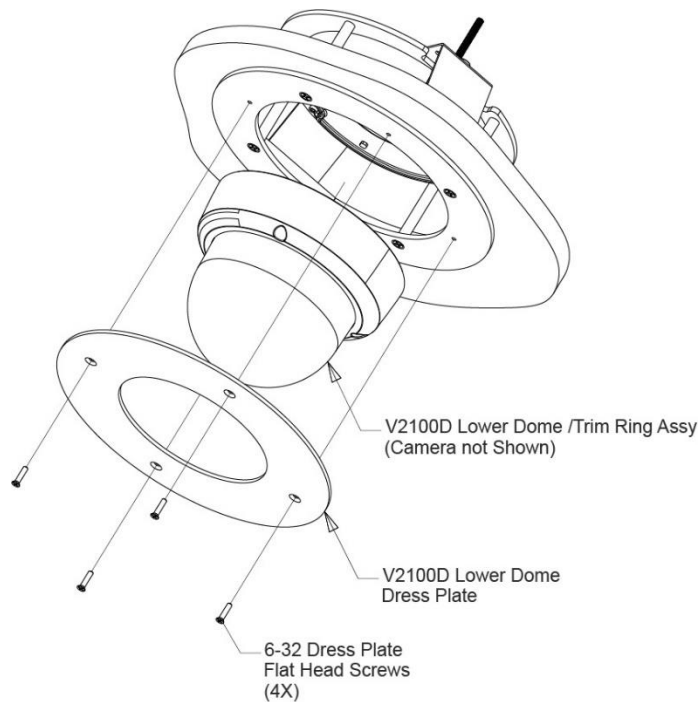

Figure 6
7. After setting up the camera, reattach the lower trim ring assembly to the camera base. Then attach the dress plate to the interface frame assembly using Figure 6 as a guide.
11. After setting up the camera, reattach the camera lower dome assembly to the camera base. Then attach the dome dress plate to the interface frame assembly using Figure 6 as a guide.